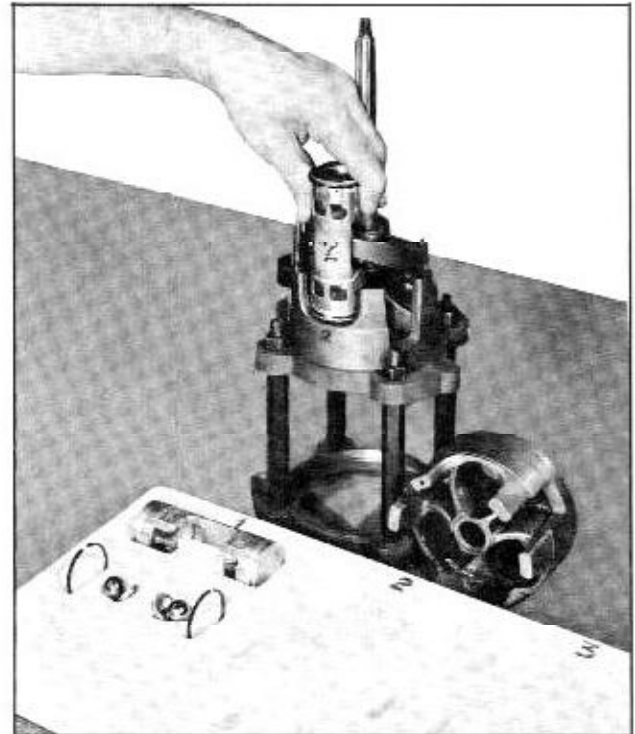

Fig. 14-49 Removing Piston
8. Repeat procedure until all pistons are removed. (Fig. 14-49)